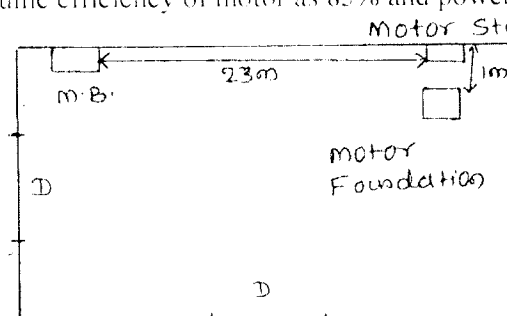

Fig. Q5 (b)
- b. A 15 HP, 415 V, 3 phase, 50 Hz induction motor is to be installed in a workshop. The plan of which is shown in Fig. Q5 (b). Draw layout of the wiring and estimate quantity of material required. Assume efficiency of motor as 85% and power factor as 0.8. (12 Marks)